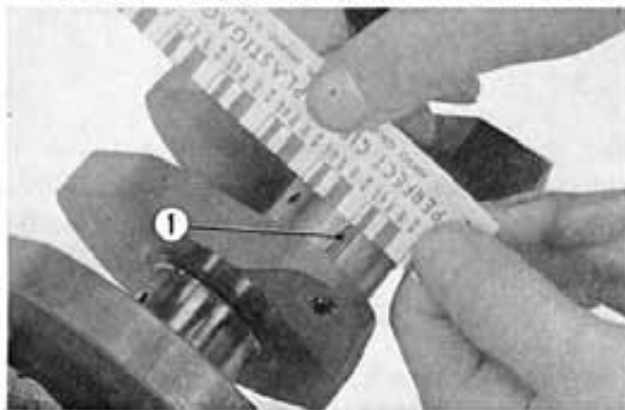

Fig. 3-82 ① Press gauge
- d. Disassemble the connecting rod bearing and measure the flattened gauge by comparing it to the scale on the package of the gauge. (Fig. 3-82)